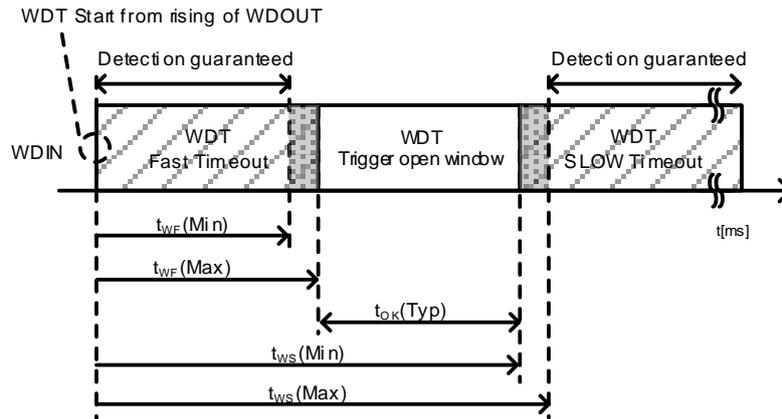
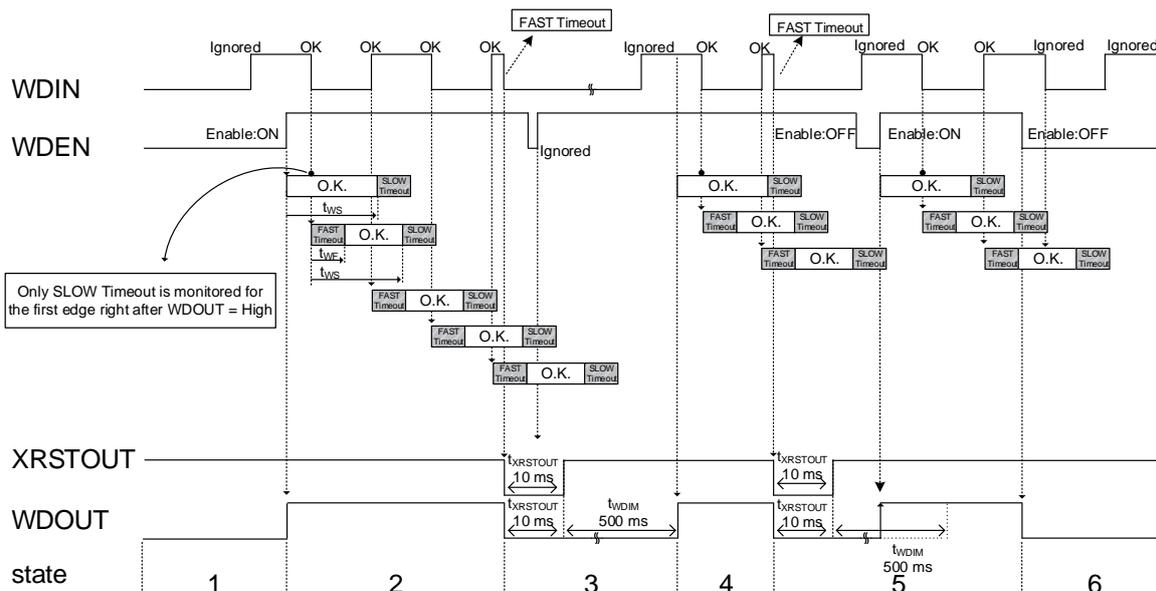

Figure 1. WDT Window Description
Figure 2. WDT FAST Timeout Detection
As long as the duty of WDIN clock is kept within "Trigger open window" in Figure 1, WDT does not detect any errors and XRSTOUT stays at High. Sequence for FAST Timeout and SLOW Timeout are shown in Figure 2 and Figure 3.
3. These time detection monitors the time until next edge and when it detects WDIN edge within FAST Timeout (t_{WF}), XRSTOUT and WDOUT becomes Low. XRSTOUT goes back to High after 10 ms (Typ) delay, while WDOUT goes back to High after t_{WDIM} (500 ms: Typ) in addition to $t_{XRSTOUT}$ (10 ms: Typ) as long as WDEN = High. t_{WDIM} is implemented as a time for microprocessor to be reset normally and stabilized. If this time is unnecessary and WDT should be activated as soon as possible, WDEN may be controlled like state 5 in the Figure 2.
5. When WDOUT becomes High, WDT is activated again and operation resumes. Only SLOW Timeout detection works until the next first edge, and both SLOW Timeout and FAST Timeout starts at the first edge like state 1 in Figure 2.
6. If this time is unnecessary and WDT should be activated as soon as possible, WDEN may be controlled like in Figure 2. t_{WDIM} is canceled by toggling WDEN like High->Low->High and WDT is activated immediately even during t_{WDIM} . After WDT is enabled it works as same as state 2 in Figure 2.